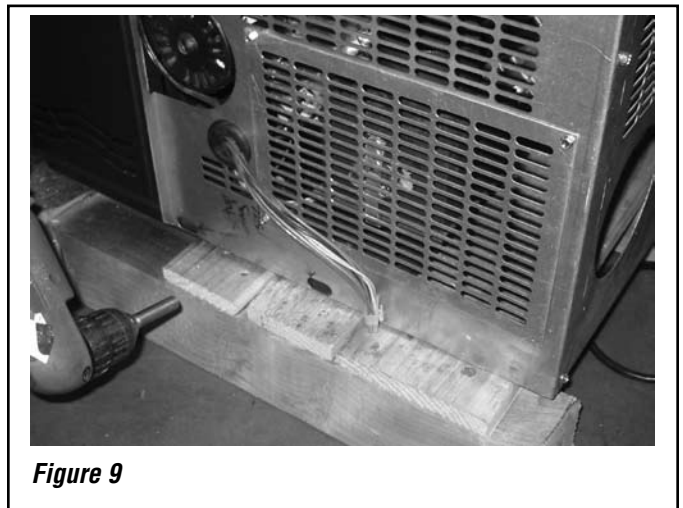

Figure 9
Step 8. Set the assembled ZC box near the back of the stove and pull the power cord, located in the lower rear of the stove, through the rubber grommet at the bottom of the back panel (A). Now, pull the wiring harness through the rubber grommet located towards the bottom of the right side panel (C) (see **Figure 9**). Slide the ZC box against the back of the stove and reinstall the 3 screws through top panel (D) and into the stove.